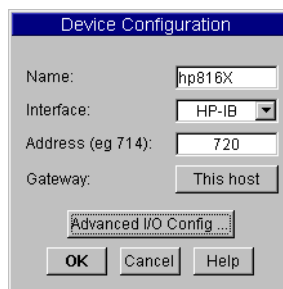

Figure 5 Device Configuration
- 2 Double-click on the Add button to bring up the Device Configuration screen, see Figure 5.